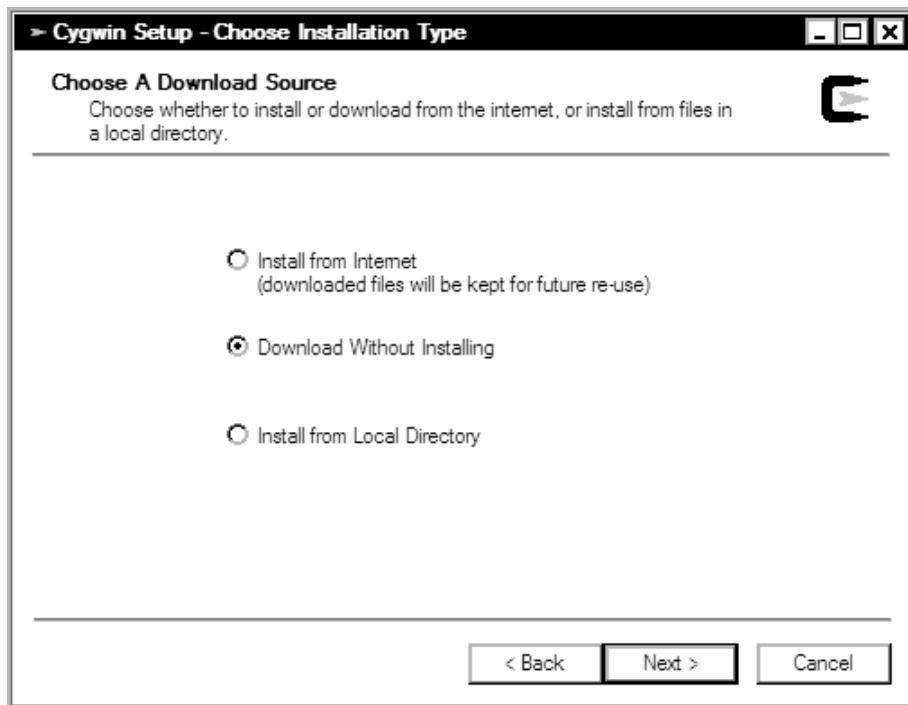

Figure 2-2. Cygwin installation: selecting the download source
5. Choose an installation type (see Figure 2-2). The recommended method is Download Without Installing, which fetches all the components that Cygwin needs to install and stores them on your system.